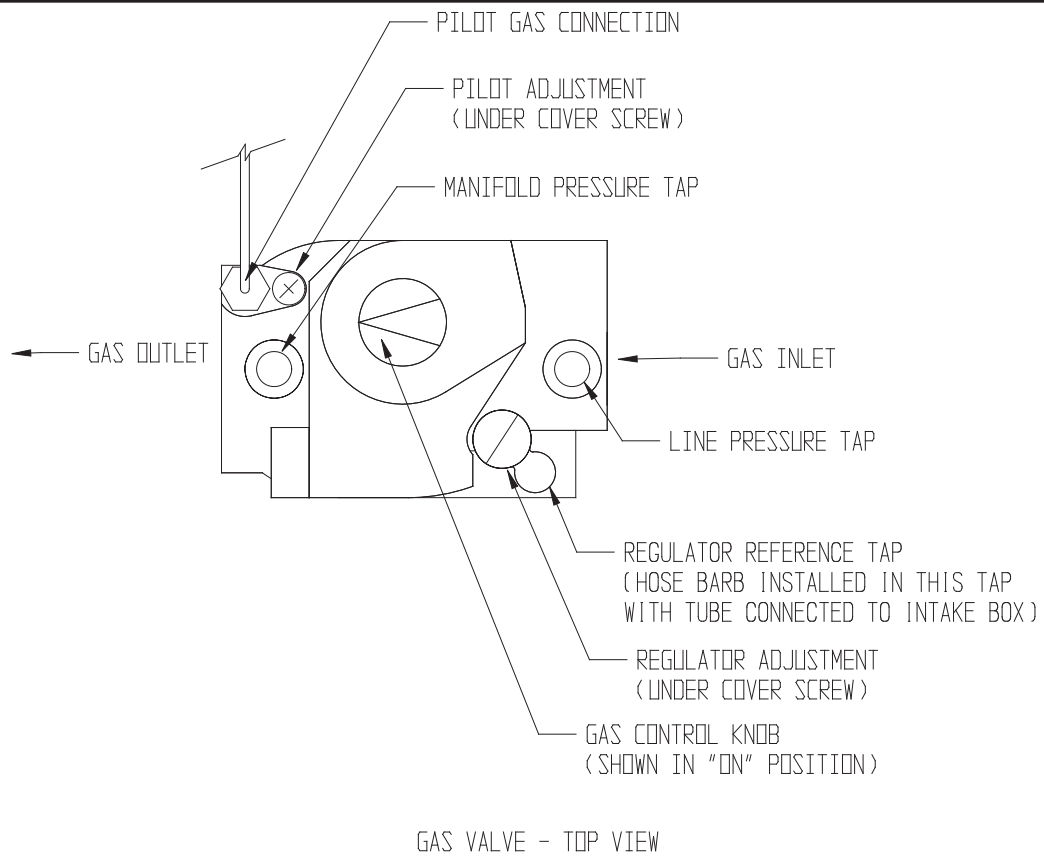

FIGURE 44: GAS VALVE
- a) Connect a manometer to the line pressure tap on the gas valve (see Figure 44).
- d) Connect a manometer to the manifold (outlet) pressure tap on the gas valve (Figure 44).
- e) If a manifold pressure adjustment is needed, make the adjustment by turning the regulator screw (see Figure 44) clockwise to raise the pressure and counter-clockwise to reduce the pressure. If a manifold pressure adjustment is made, recheck the line pressure to be certain that it is still within acceptable limits. Replace the cover screw on the regulator.